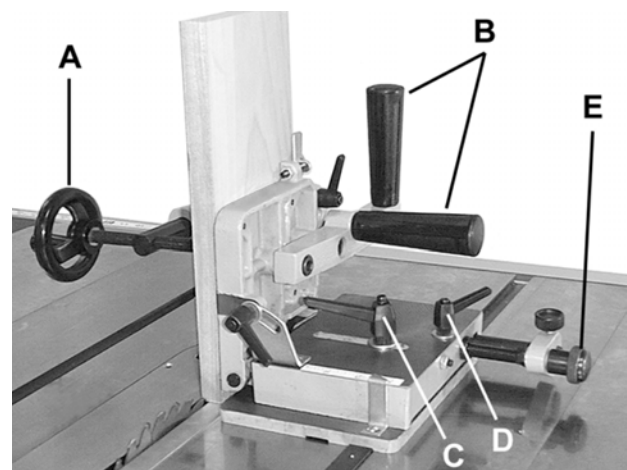

Figure 8
- Use the handwheel (A) to tighten your workpiece against the fence. See Figure 8.
- Use the two large handles (B) to securely move the workpiece through the saw blade.
- For fine adjustments moving the fence toward or away from the saw blade, loosen both lock levers (C & D). Move the fence away from the saw blade and tighten lock lever (D) only. Move the fence into position with knob (E) and then tighten lock lever (C).